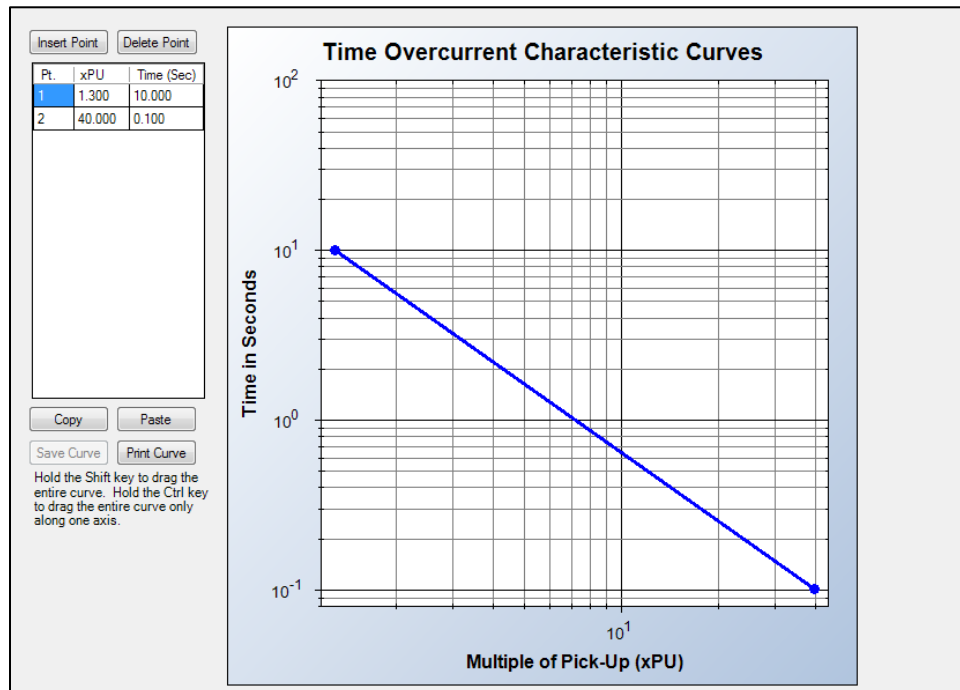

Figure 14-1. Inverse Overcurrent Table Curve
*BESTCOMSPPlus* is used to set the 51 element Table Curves (T1, T2, T3, and T4). Using the Settings Explorer within *BESTCOMSPPlus*, open the Protection, Current, Table Curve (1, 2, 3, or 4) tree branch and select the table curve to be modified. Refer to Figure 14-1. A minimum of 2 and maximum of 40 points can be entered for any one T curve. When you are satisfied with the values chosen, select Save Curve. Use the Settings Explorer to browse to the 51-x element you wish to program and use the drop-down menu under Curve to select T1, T2, T3, or T4.